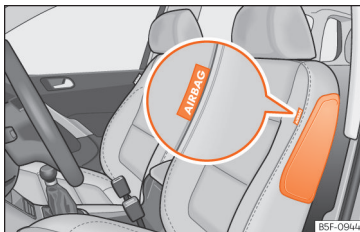
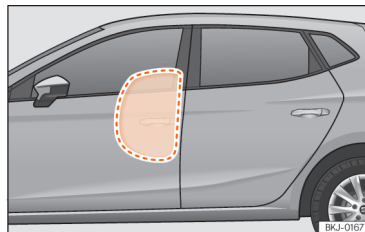

Fig. 31 Side airbag in driver's seat.
Fig. 32 Illustration of completely inflated side airbag on left side of vehicle.
The side airbags are located in the front seat backrests »» Fig. 31, »» Fig. 32.
- Ensure that children are correctly seated in their seats and that their heads are not in the deployment zone of the side airbags >>> Fig. 32, as deploying airbags could hit them and cause serious injury.